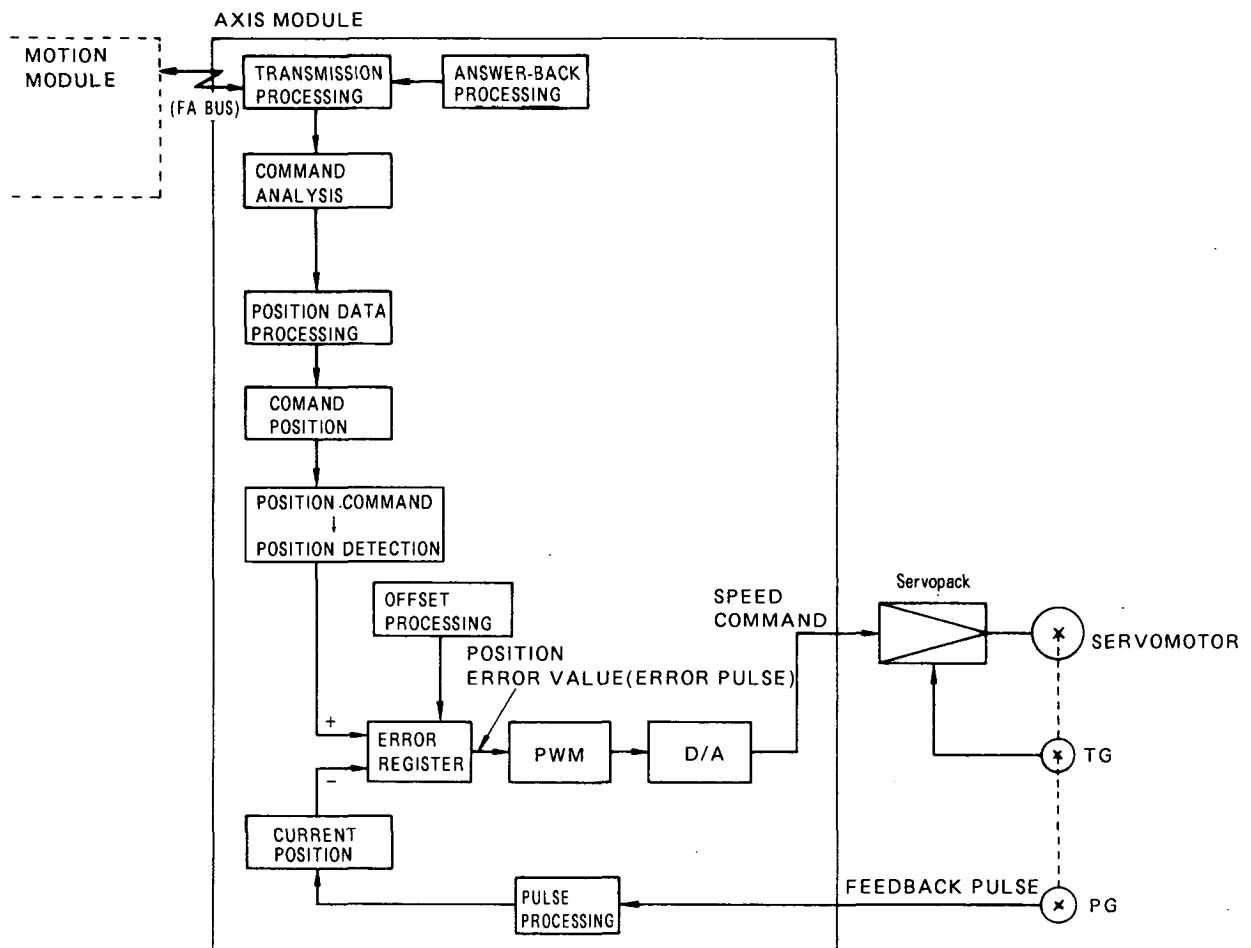

Fig. 2.3 Control Block Diagram of Axis Module
- (1) Fig. 2.3 shows the axis module control block diagram. The axis modules generate command positions and inputs the data to the error register. The signals generated by the PG and processed into pulses are fed back to the error register as current position signals, so that the contents always represent the current position error. The position error signals are converted into pulse width in the PWM circuit, further converted into analog voltage signals by the D/A conversion circuit, and output to the Servopack as speed command voltages. When the position destination is reached, the contents of the error register become zero, and the speed command becomes 0V. During the control process, the contents of the error register are checked for excess error, etc., and when an abnormal state is detected, alarm processing is executed.